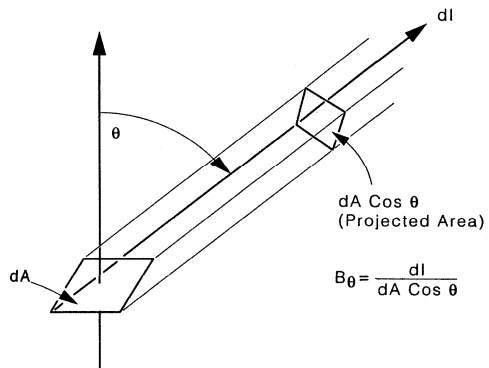

Figure 5. Definition of Luminance
For an extended radiating surface, (such as an LED chip), each element of area contributes to the luminous intensity of the source in any given direction. The luminous intensity contribution in the given direction divided by the projected area of the surface element in that direction is called the *luminance* (B) of the source (in that direction), Figure 5. The quantity is sometimes called photometric brightness, or simply brightness. Using the term brightness on its own should be discouraged as brightness involves various subjective properties such as texture, color, sparkle, apparent size, etc., that have psychological implications.